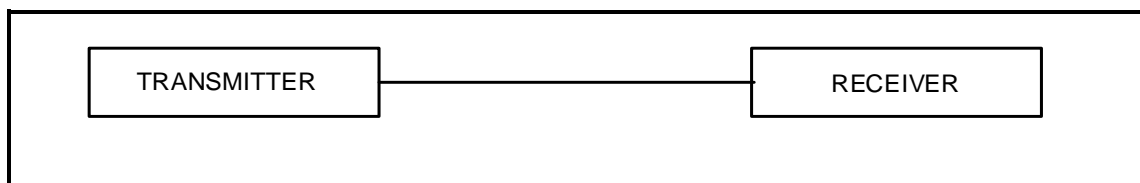

FIGURE 6.6.2: SIMPLEX COMMUNICATION
6.6.2 Refer to FIGURE 6.6.2 of simplex communication below and show the difference between *simplex communication* and *duplex communication* by means of a neatly labelled block diagram.